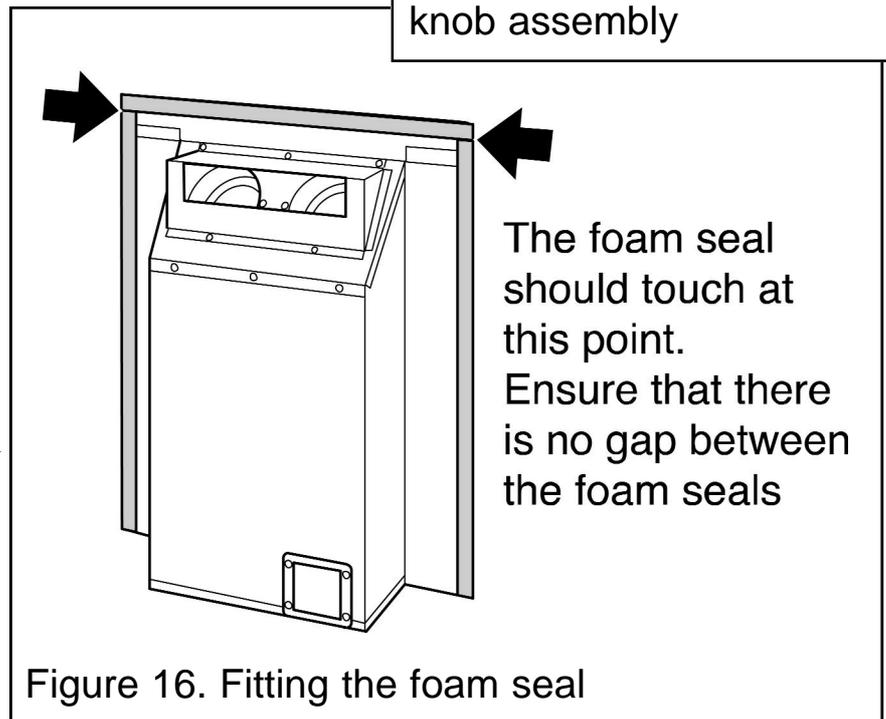

Figure 16. Fitting the foam seal
9. There is a length of self adhesive foam seal supplied with the fire. This will need to be fitted to the outer rear edges of the side and top flanges of the convector box. Cut the foam seal to the required length. Be careful not to stretch the seal when measuring. Remove the protective backing from the foam seal and fit this to the rear of the top flange (See figure 16).